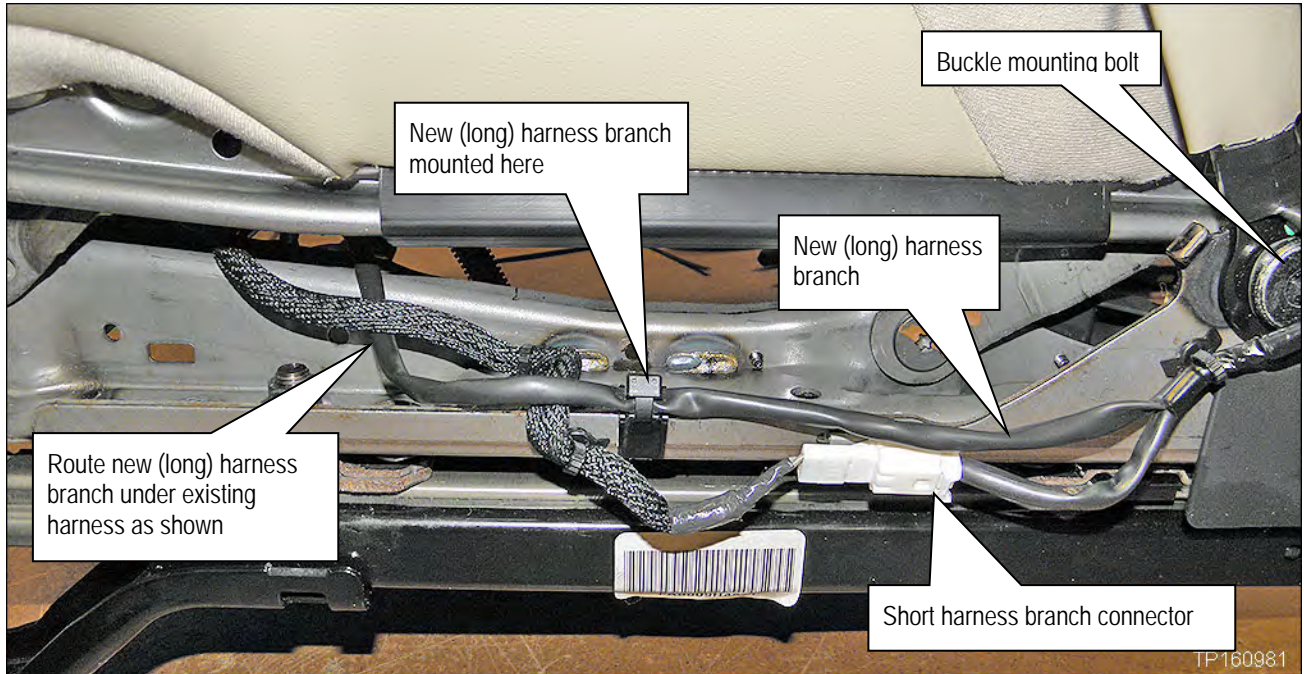

Figure 2
9. Install the new seatbelt buckle (see Figure 2).
- Route and attach the new (long) harness branch as shown in Figure 2.